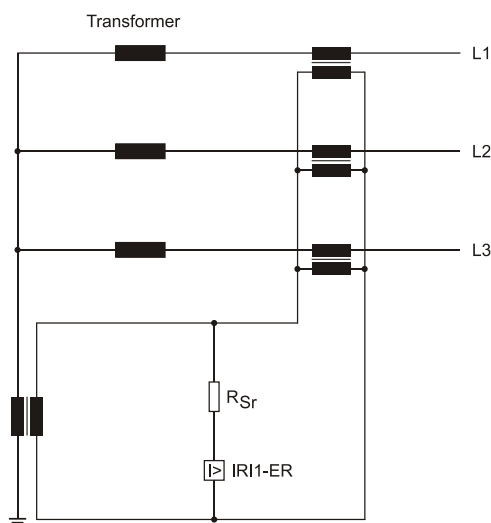
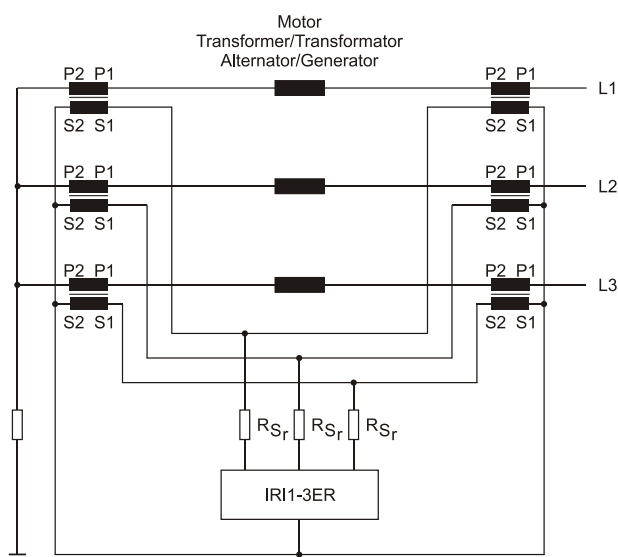

Figure 2.1: Zero-current differential protection of a transformer in star-connection (IRI1-ER)
Figure 2.2: Highly stabilized differential protection for alternators, transformers and motors (IRI-3ER)
- Zero-current differential protection of the star point winding (restricted earth fault) of a transformer (IRI1-ER), see figure 2.1
- Highly stabilized differential current relay for alternators, transformers and motors (IRI-3ER), see figure 2.2
The protection relay IRI1-ER is connected to the differential circuit of the c.t.s as a current differential protection relay. When used as zero-current differential protection (restricted earth fault), the relay (IRI1-ER) is to be connected acc. figure 2.1. When used as highly stabilized differential current relay, the relay (IRI1-3ER) is to be connected acc. figure 2.2.